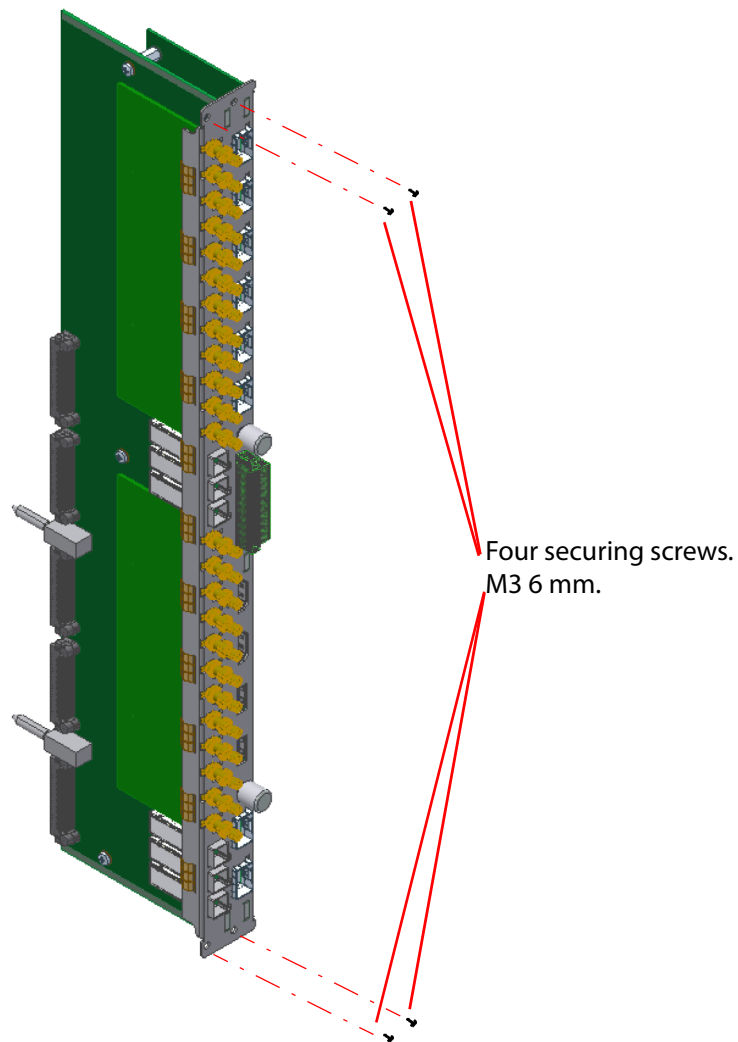

Figure 24 'MV-841/851-RP' Rear Panel module
Check the orientation of the rear module, see Figure 24.
4. Fasten the MV-841/851 rear panel module in position with four securing screws, see Figure 24.